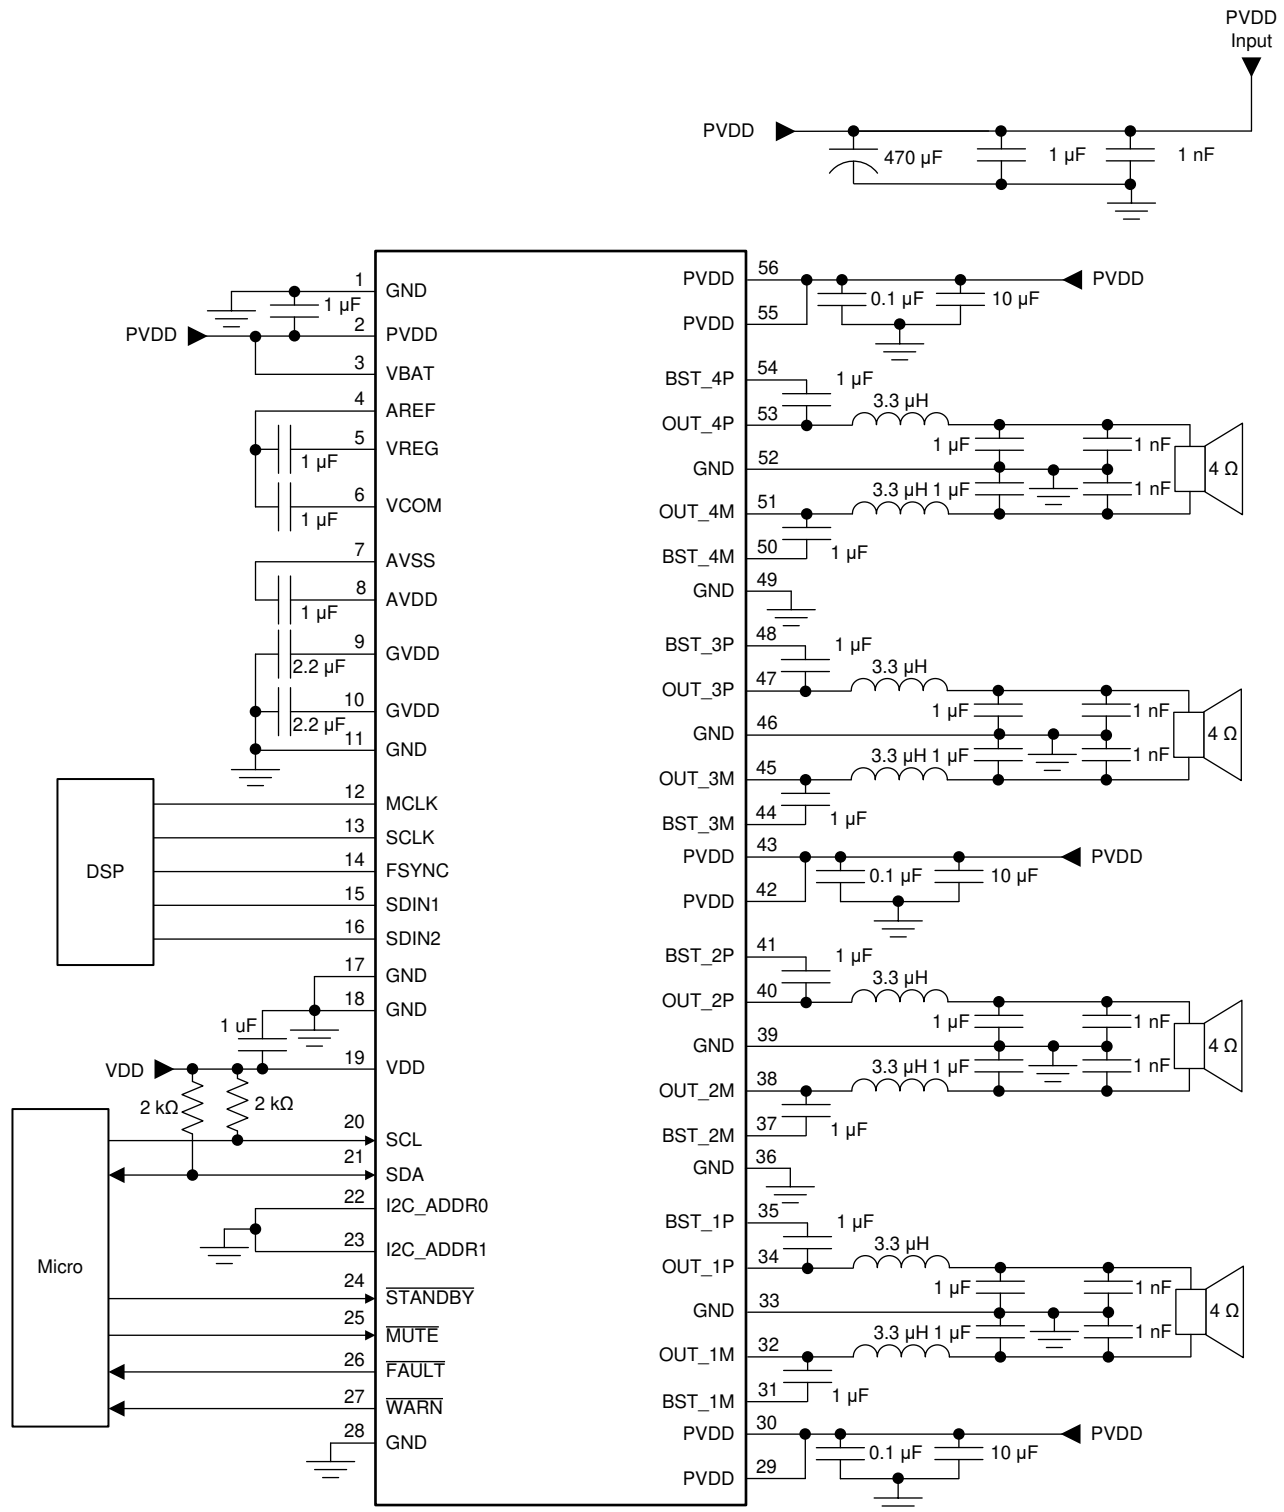

图 10-2. Typical 4-Channel BTL Application Schematic
图 10-2 shows the schematic of a typical 4-channel device for a head-unit application.
- With the requirements, adjust the typical application schematic in 图 10-2 for the input connections.